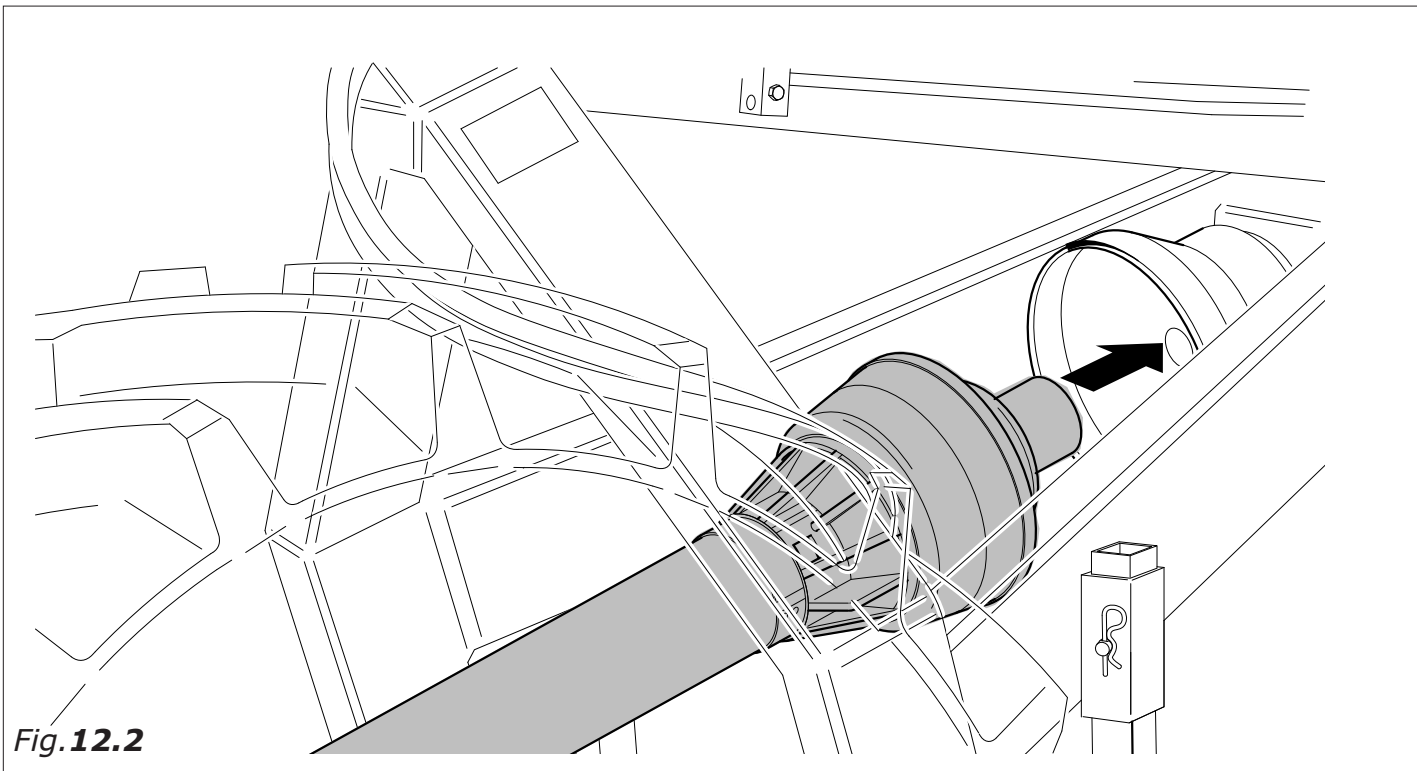

Fig.12.2
2. Mount the cardan shaft (Fig. 12.1 and Fig. 12.2);